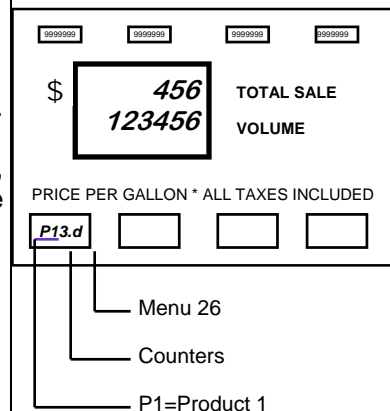

Figure 26.4
1. Press the +/- button. The main sales display indicates Hose 1 counter totals. See Figure 26.4.